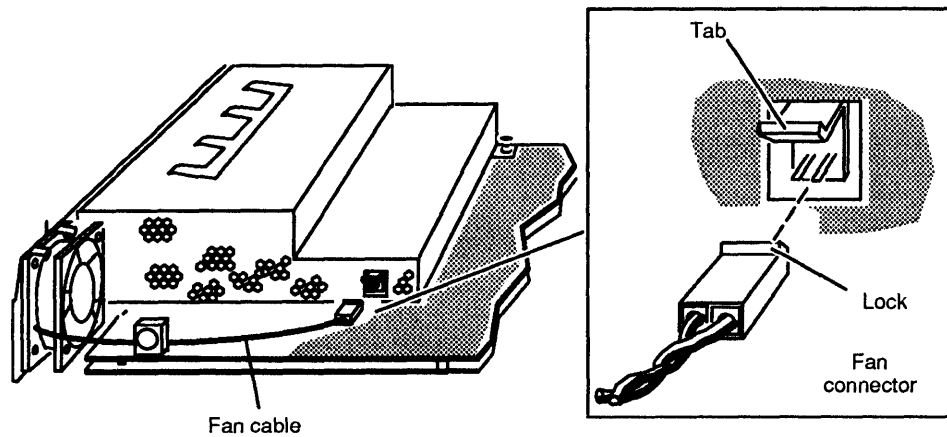

Figure 4-8 Disconnecting the Fan Cable
2. Lift up the tab on the fan connector and pull out the fan cable, as shown in Figure 4-8.